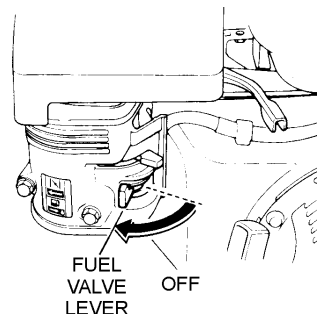

Figure 16. Fuel Valve Lever (OFF)
3. Place the **fuel shut-off lever** (Figure 16) in the **OFF** position.